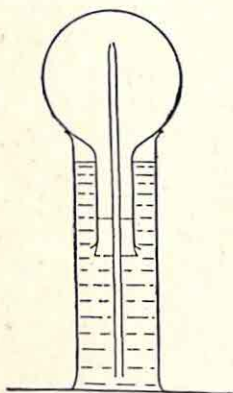

FIG. 131.
• If a dry flask is filled with hydrogen chloride, then closed with a rubber stopper fitted with a tube drawn out to a jet (Fig. 131), on plunging the flask into a jar of neutral litmus solution a fountain is formed within the flask and the litmus becomes red. This experiment shows that hydrogen chloride is very soluble in water and that the solution is acid—hydrochloric acid.